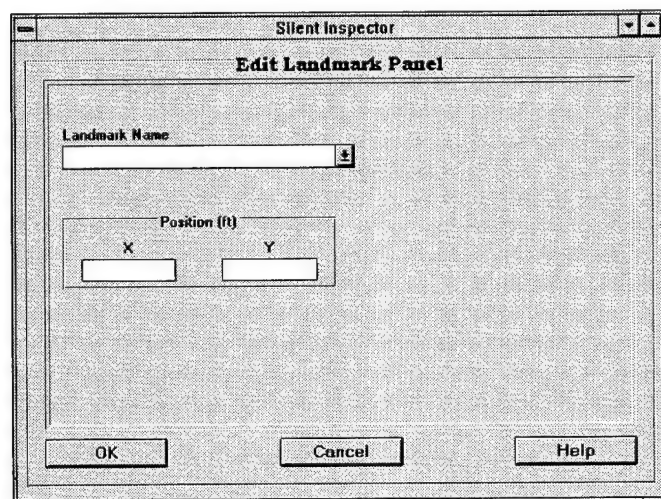

Figure 33. **Edit Landmark Panel** screen
- Click on **View/Edit** under the **Landmarks** menu, and the **Edit Landmark Panel** screen (Figure 33) will appear.